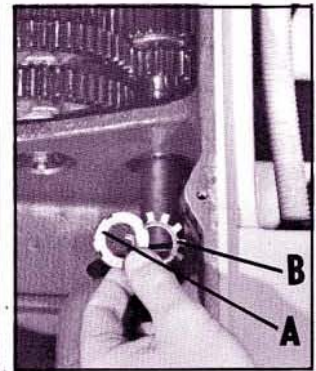

Fig. 8
8. Fig. 8. illustrates the spanner nut (A) and locking washer (B) removed.